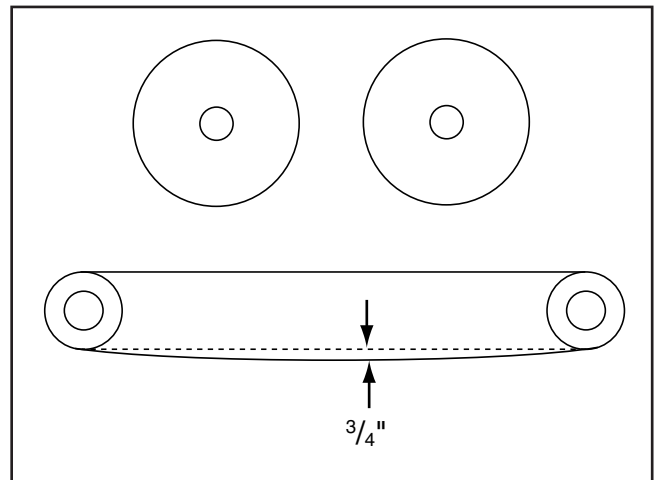

Figure 52. Conveyor belt hanging gap.
2. Measure the distance from the frame to the conveyor roller on both sides. Turn the adjustment bolts so the distance between the frame and conveyor roller is identical on both sides. Do not overtighten the conveyor. Your goal is to reach a $\frac{3}{4}$ " gap between the underside of the conveyor and the belt, as shown in **Figure 52**.